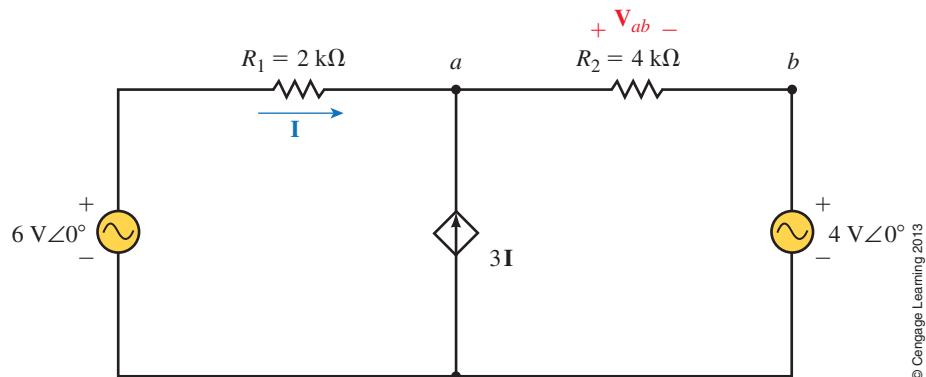

FIGURE 20-78
17. Determine the voltage V_{ab} for the circuit of Figure 20-78.